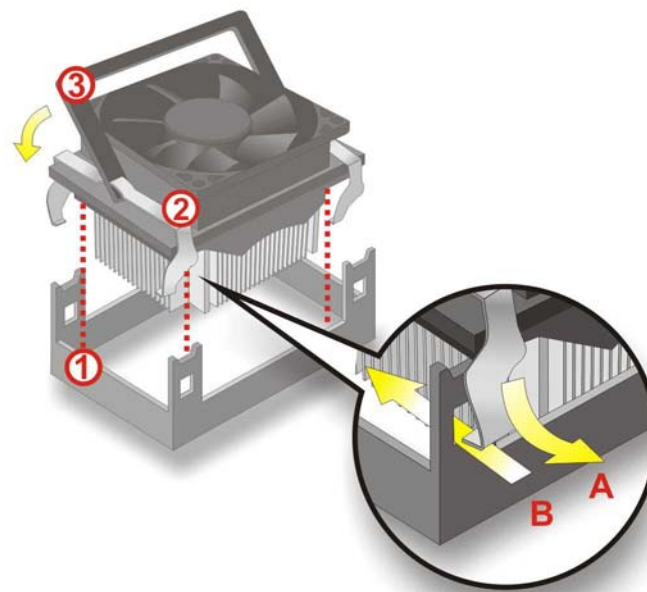

Figure 5-3: Install the CPU cooler
- Step 3:** Install the cooling kit into the preinstalled cooling kit bracket. See Figure 5-3.
- Step 4:** Attach the levered mounting clips. Slip the four levered mounting clips into the clip holes on the cooling kit bracket. See Figure 5-3.
- Step 5:** Secure the cooling kit in place. Gently push the plastic mounting clip down to lock the cooling kit. See Figure 5-3.